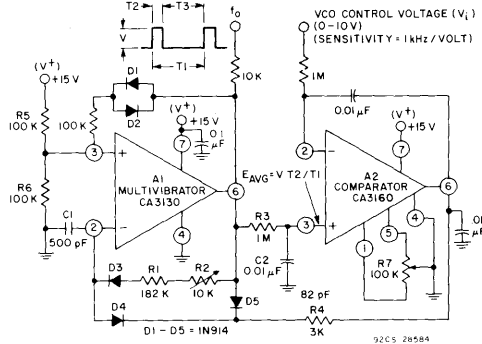

Fig.21 - Voltage-controlled oscillator.
The circuit diagram of a precision voltage-controlled oscillator is shown in Fig.21. The oscillator operates with a tracking error in the order of 0.02 percent and a temperature coefficient of 0.01%/°C. A multivibrator (A₁) generates pulses of constant amplitude (V) and width (T₂). Since the output (terminal 6) of A₁ (a CA3130) can swing within about 10 millivolts of either supply-rail, the output pulse amplitude (V) is essentially equal to V⁺. The average output voltage ($E_{avg} = V T_2/T_1$) is applied to the non-inverting input terminal of comparator A₂ via an integrating network R₃, C₂. Comparator A₂ operates to establish circuit conditions such that $E_{avg} = V_1$. This circuit condition is accomplished by feeding an output signal from terminal 6 of A₂ through R₄, D₄ to the inverting terminal (terminal 2)